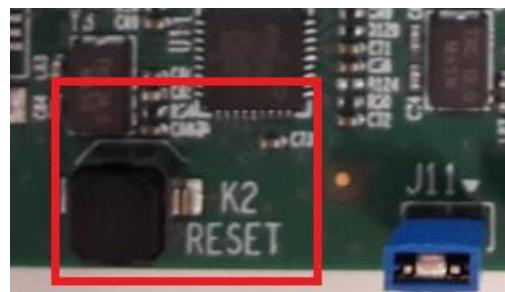
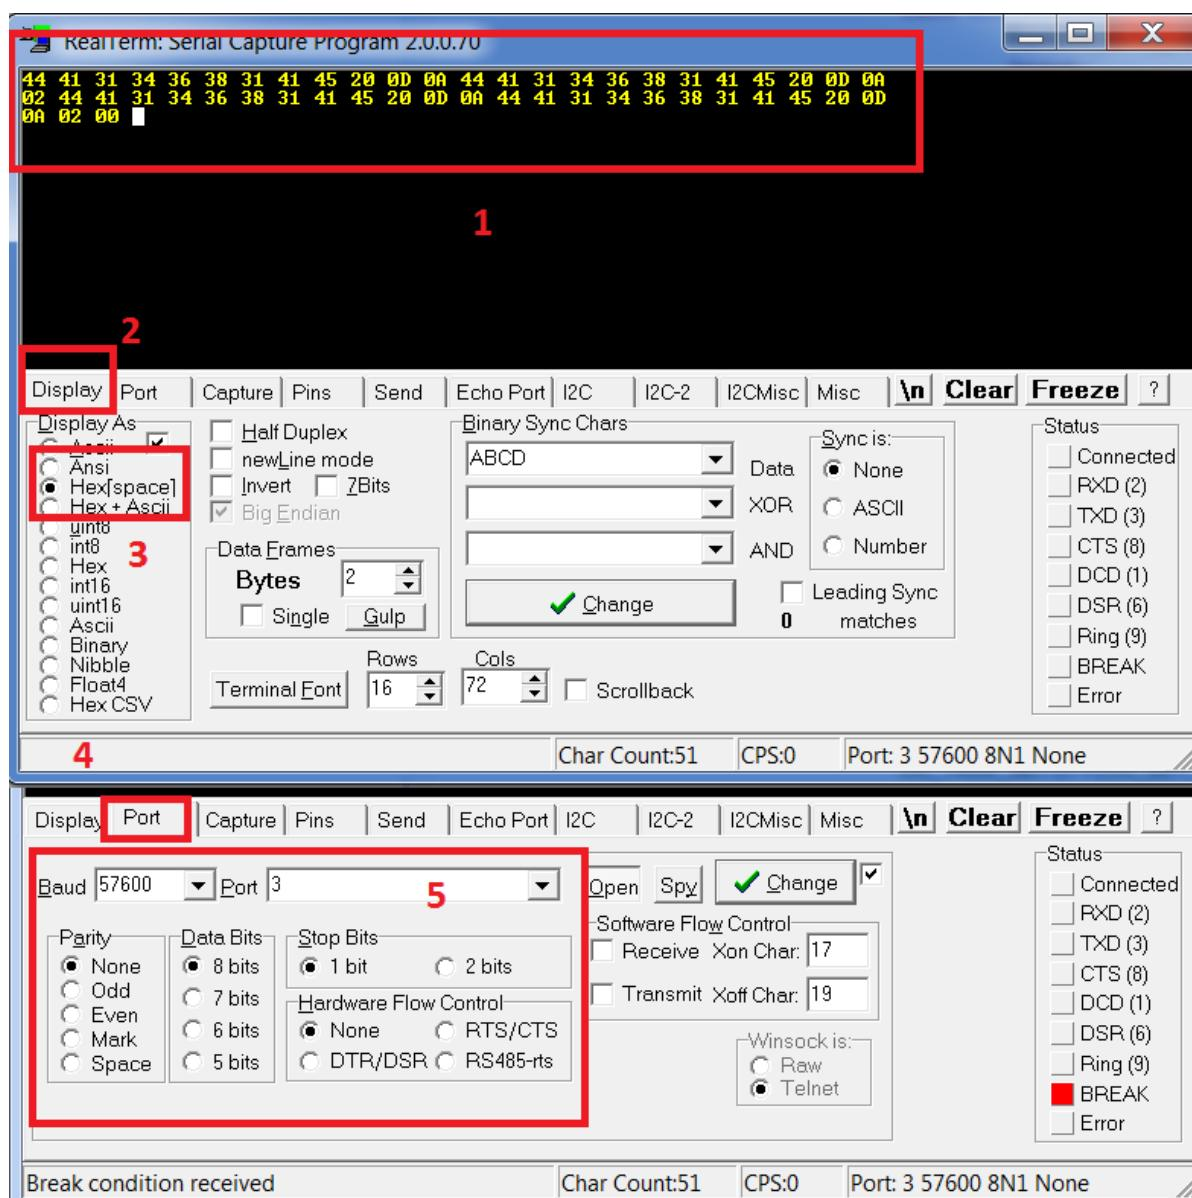

Figure 7: K2 RESET button in ProDK
Figure 8: Setting port and testing connectivity via RealTerm
3. Start a terminal software with HEX display capabilities (Figure 8, Reference points 2 and 3) (i.e. RealTerm)
4. Open the serial port (Figure 8, Reference points 4 and 5) which corresponds to ProDK UART1 (i.e. COM4 for Windows), using the parameters shown in Table 1:
5. Click K2 Reset button on the ProDK board as depicted in Figure 7. If terminal shows bytes (non-printable characters) similar to those presented in Reference point 1 in Figure 8 on every reset button push, the connection has been correctly setup and the programmer can be used (sometimes other characters bytes can be sent). The sequence shows in Figure 8 is a confirmation sequence corresponding to a correct setup confirmation. The sequence is generated by the Bootloader [7] and corresponds to an ASCII string with the chip version.